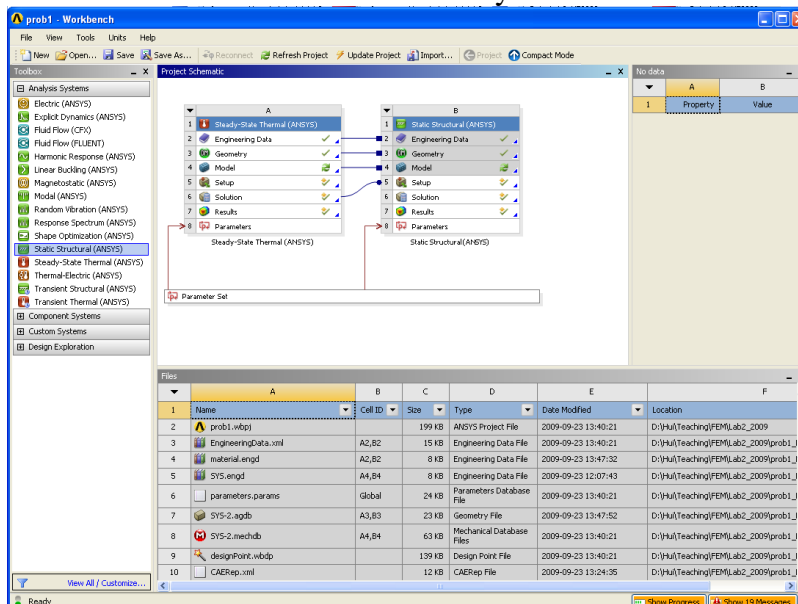

Figure 8
- Go back to Workbench project window, and right click  Setup and choose **Transfer Data from New > Steady-State Thermal (ANSYS)**. Then a Steady-State Thermal project has been built which also related to the same geometry and model of Static Structural project. See Fig. 8